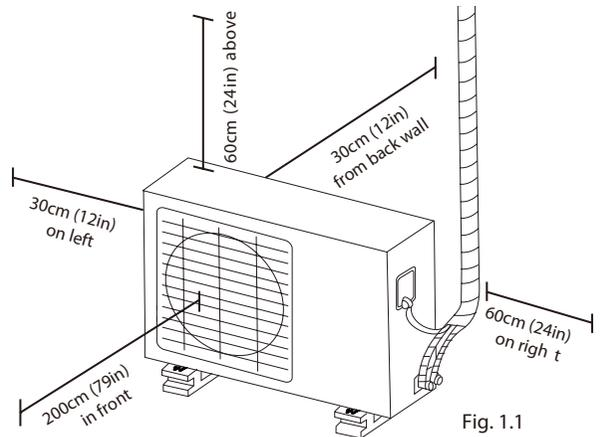

Fig. 1.1
- ☑ Meets all spatial requirements shown in Installation Space Requirements (Fig. 1.1)